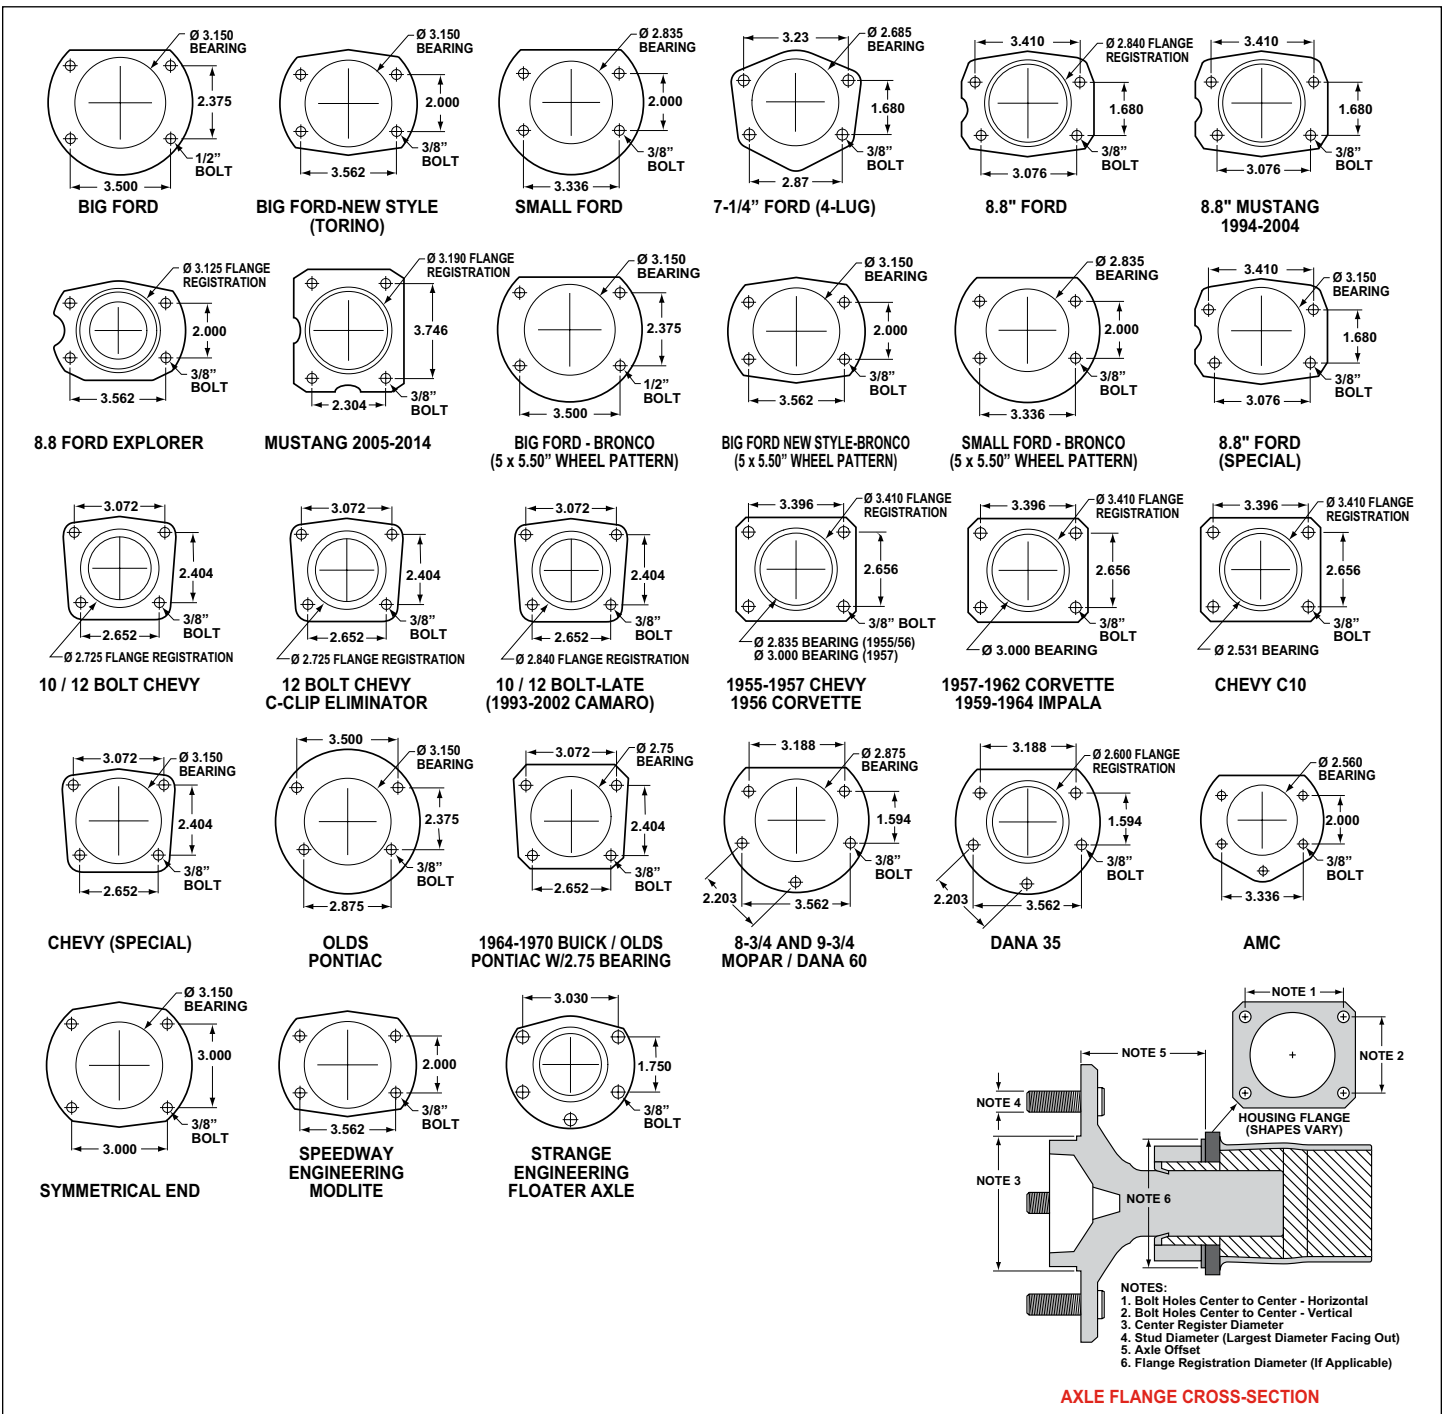

Figure 5. Rear Housing Flange Chart and Axle Flange / Offset Cross-Section
- Make sure this is the correct kit to fit the axle housing flange, not necessarily the rear end make. Many times aftermarket manufacturers put a different make of axle housing flange on the stock rear end housing (Figure 5). Example; Big Ford rear ends with Olds-Pontiac flanges, therefore, an Olds-Pontiac rear disc brake kit would be the correct kit to order. Also, shock clearance may be a problem. They may have to be modified and/or relocated to clear the Wilwood kit after final assembly.
- Dimension from wheel side of axle flange to wheel side of axle housing flange (see Figure 5, lower right hand corner). This dimension is critical to ensure proper alignment of the rotor to the caliper, and should match offset given in the kit description. **NOTE: Left side only; leave OEM shim stack in place against axle housing when measuring offset.**